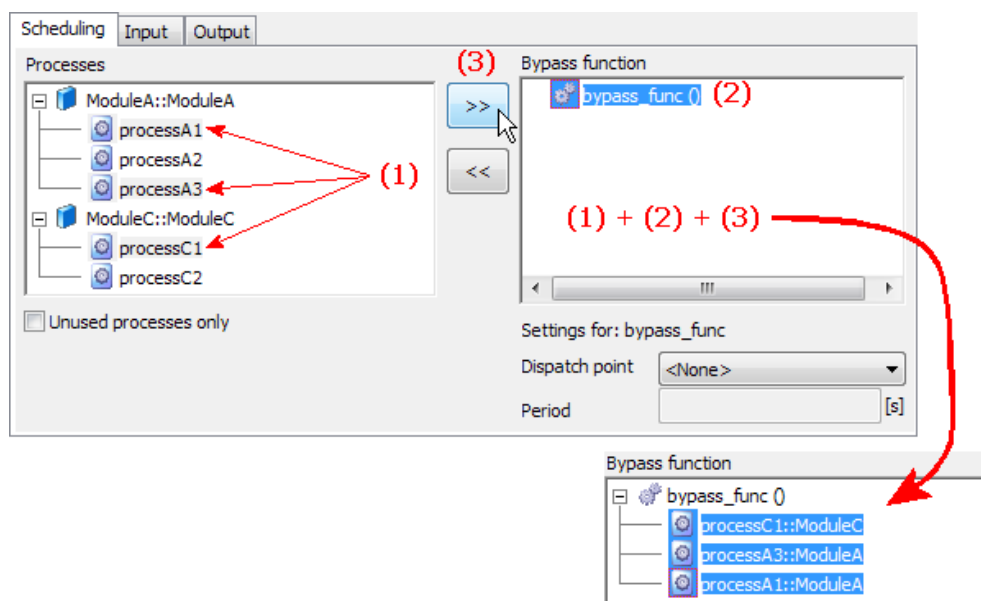

Figure 4.25: Mapping processes to bypass functions
2. In the "Processes" field, select one or more processes ((1) in Figure 4.25 on the next page).
3. In the "Bypass function" field, select one or more bypass functions ((2) in Figure 4.25).
4. Click the  button ((3) in Figure 4.25).